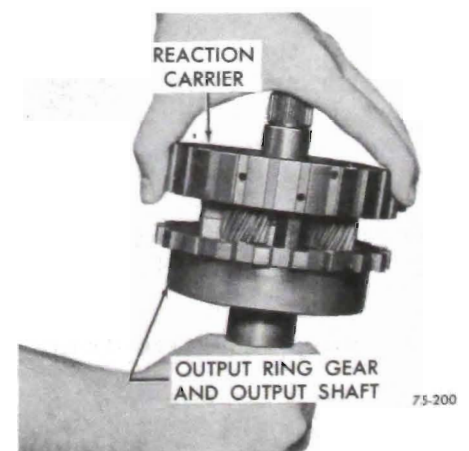

Figure 75-249
4. Install reaction carrier assembly into output ring gear and shaft assembly. See Figure 75-249.